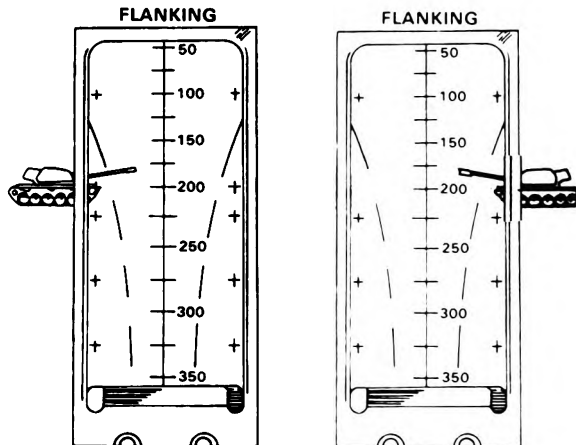

Figure 4. Fast target at a range of 200 meters.
- (b) For fast targets, lead cross should be on front edge of target (figure 4). The vertical range line should be in front of the target.